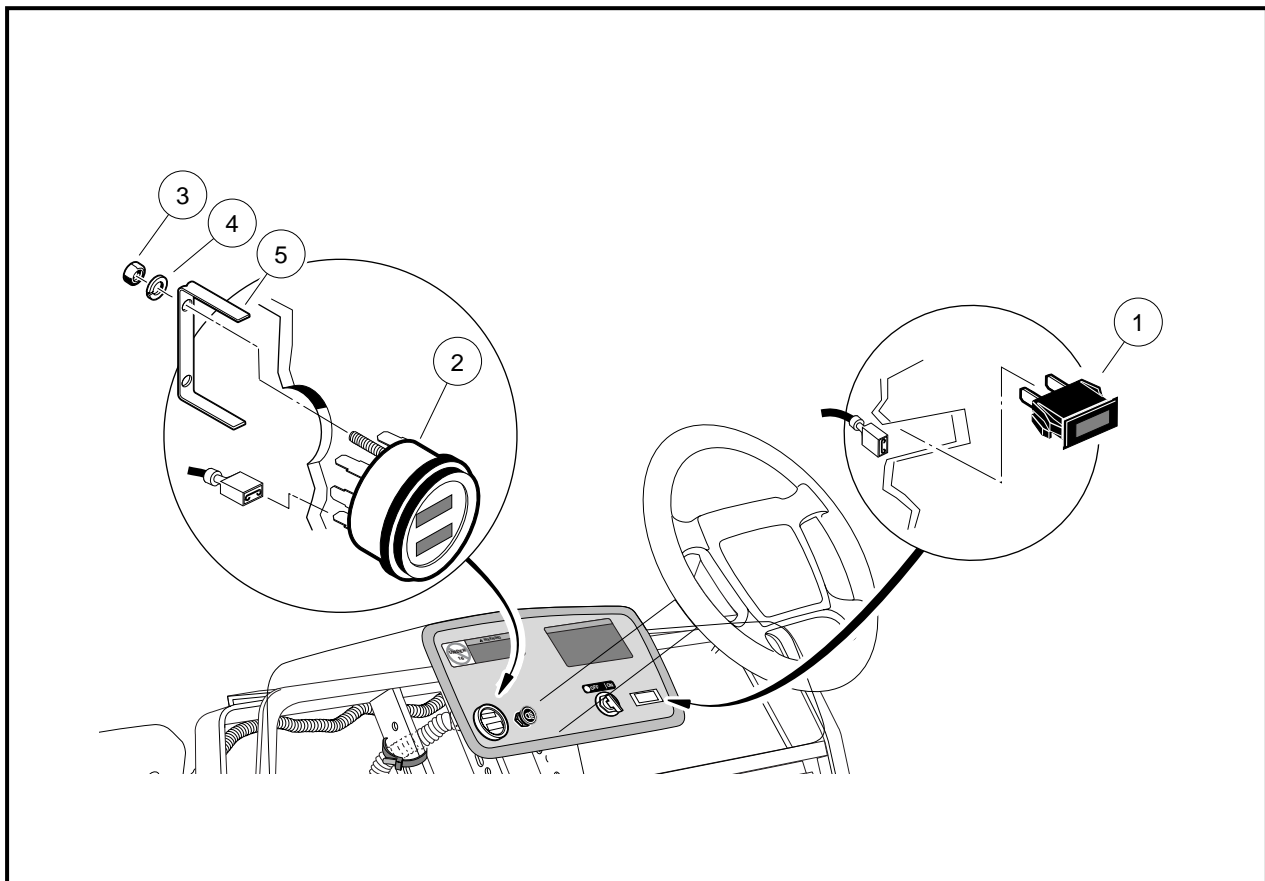

Figure 12-23 Fuel/Hour Gauge and Oil Warning Light Installation
3. Disconnect the wires from the oil warning light (1) (**Figure 12-23, Page 12-22**). Do not allow wires to touch.
1. Push a new unit into hole in dash until plastic tabs engage dash (**Figure 12-23, Page 12-22**).
3. Disconnect the wires from the fuel/hour gauge (2) (**Figure 12-23, Page 12-22**). Do not allow wires to touch.
4. Remove the two hex nuts (3) and lock washers (4) from the threaded studs on the back of the gauge. Remove the mounting bracket (5) from the back side of the gauge and remove the gauge from the dash.
1. Install a new gauge into hole in dash until flange seats against dash (**Figure 12-23, Page 12-22**).